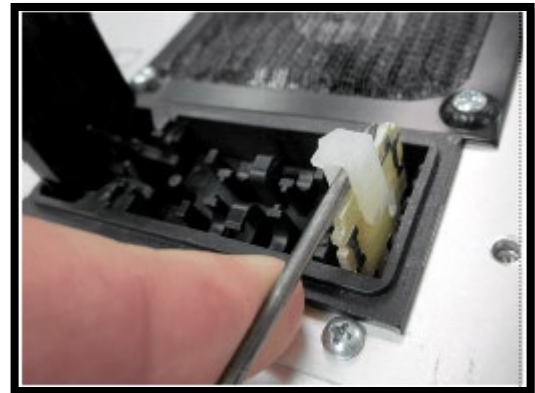

Figure 25. Gently Pull Out Voltage
- 1) Use the indicator pin to pull the voltage selector card straight out of the module. If necessary, lift the indicator pin a few millimeters, slide the shaft of a small flat-blade screwdriver under the top of the pin, and use the screwdriver to *gently* lift out the card, as shown in Figure 25.